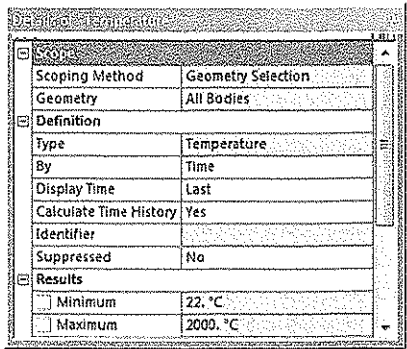
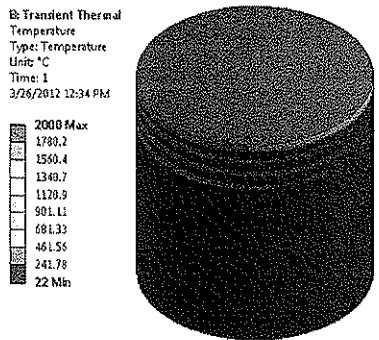

Figure 11-36 The Details of “Temperature” window
Figure 11-37 The color contours displayed in the Graphics screen
6. Select **Temperature** under the **Solution** node in the Tree Outline; the **Details of “Temperature”** window is displayed, as shown in Figure 11-36. Also, the temperature contours are displayed in the Graphics screen, as shown in Figure 11-37.